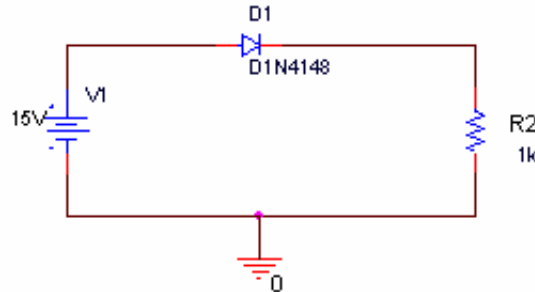

Figure A-6
- Modify your PSpice schematic by replacing R1 with D1, a D1N4148 diode, as shown in figure A-6. You will find this diode in the parts list. It is in the EVAL library.